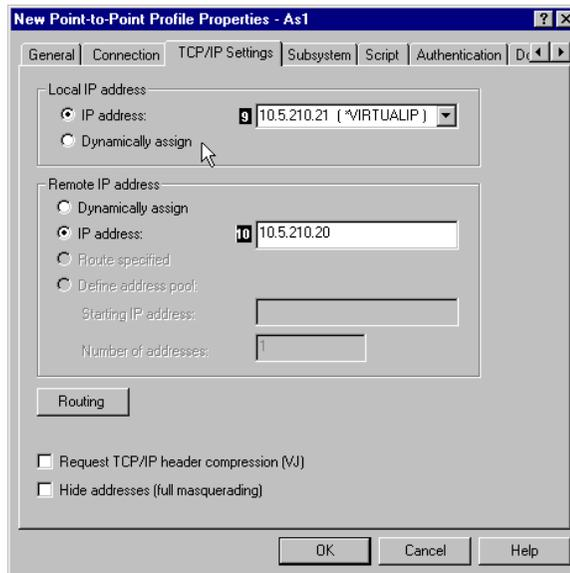

Figure 69. TCP/IP Settings page of PPP profile as a switched dial numbered
10. Select and configure the **TCP/IP Settings** page (Figure 69 on page 88) of the PPP profile.